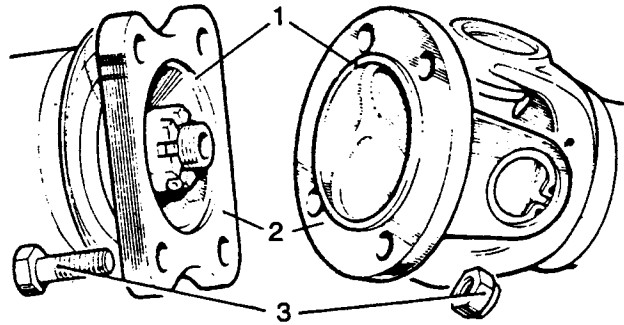

Fig H4.4
- (3) **Both shafts:** Refer to Fig H4.4. Ensure that the registers (1) on the coupling flanges (2) engage.
- (4) Secure the coupling flanges with the four bolts and locknuts (3).